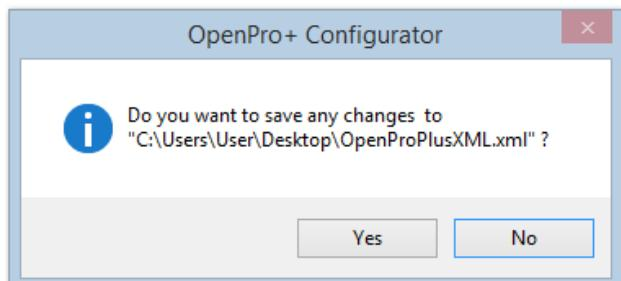

Figure 67: Prompting to Save Configuration before exiting OpenPro+ Configurator
- From File Menu, choose Exit .If there is any open configuration, a warning window will appear to confirm whether the user would like to save the configuration before closing OpenPro+ Configurator. Refer Figure 67